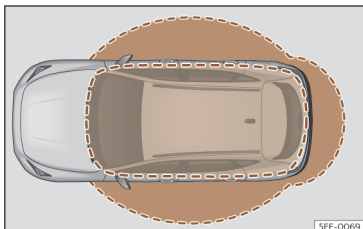

Fig. 76 Keyless Access: proximity zones.
- The vehicle is unlocked when the vehicle key is detected nearby >>> **Fig. 76**. All turn signals flash twice.